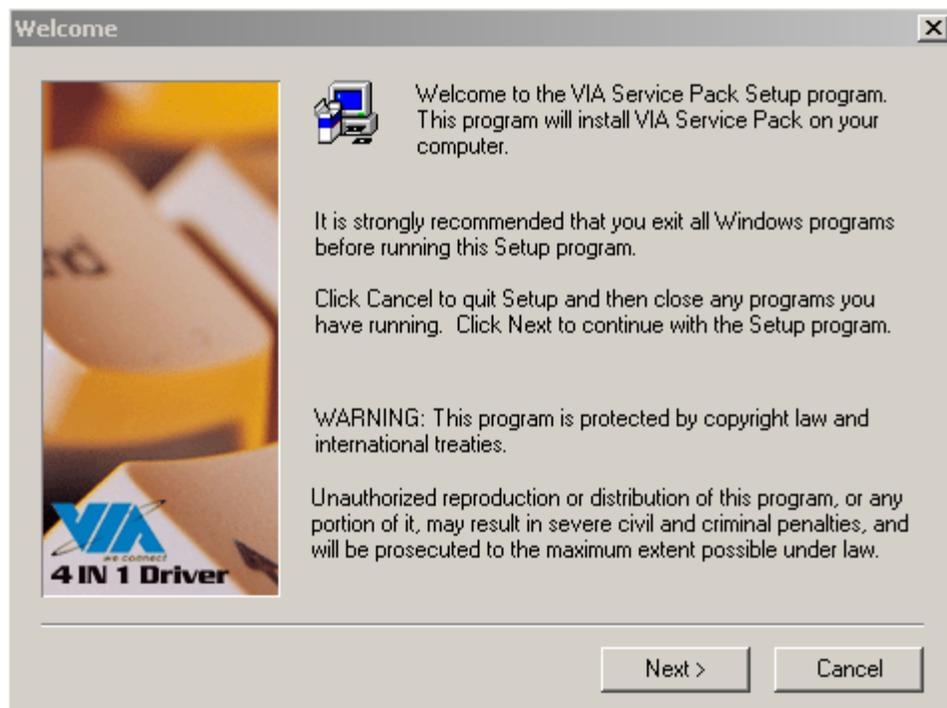

Figure 6-4: VIA Chipset Driver Installation Welcome Screen
Step 5: The installation program begins to initialize. After the initialization process a welcome screen shown in **Figure 6-4** appears. Click "**NEXT**" to continue the installation.